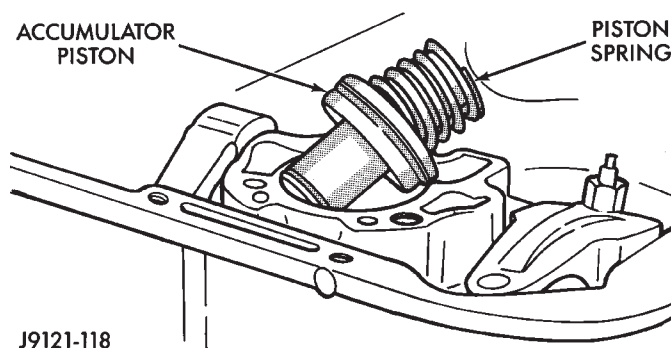

Fig. 155 Installing Accumulator Piston And Spring
(1) Install new manual lever shaft seal in case. Use 15/16 deep well socket to install seal.
(2) Make sure neutral switch has **not** been installed in case. Remove switch if necessary as it will interfere with valve body installation.
(3) Install new seal rings on accumulator piston (Fig. 155). Lubricate accumulator piston, seals and accumulator bore with transmission fluid.
(4) Install accumulator piston and spring (Fig. 155) in case.